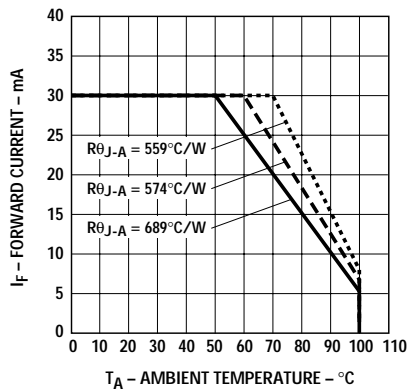

Figure 5. Maximum forward dc current vs. ambient temperature derating based on $T_J \text{ MAX.} = 110^\circ\text{C}$.
3. Derate linearly as shown in Figure 5.